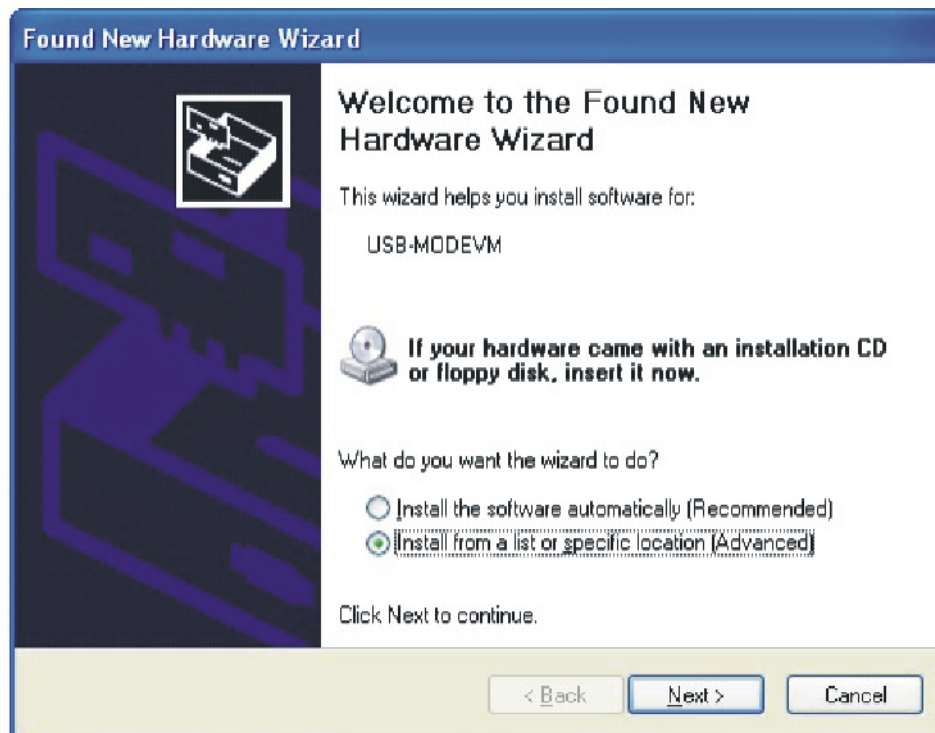

**Figure 1. Place Shunts Horizontally Across SDA and SCL**
4. Install shunts in J1 and J3 as shown in Figure 1. This sets the TPA2018D1 to accept I2C inputs from the EVM itself.